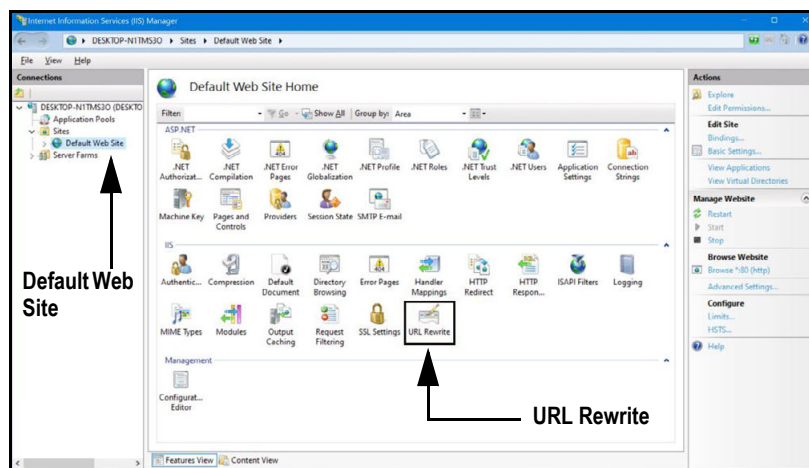

Figure 2-3. Internet Information Services Manager
- B.1 Windows Features window displays (see Figure 2-3 on page 4).